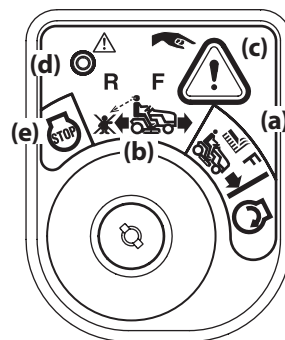

Figure 3-4
- Turn the key from the NORMAL MOWING (a) position to the REVERSE CAUTION MODE (b) position of the ignition module. See Figure 3-4.
- Press the REVERSE PUSH BUTTON (c) at the top, right corner of the ignition module. The red indicator light (d) at the top, left corner of the ignition module will be ON while activated. See Figure 3-4.
- The REVERSE CAUTION MODE (B) will remain activated until: